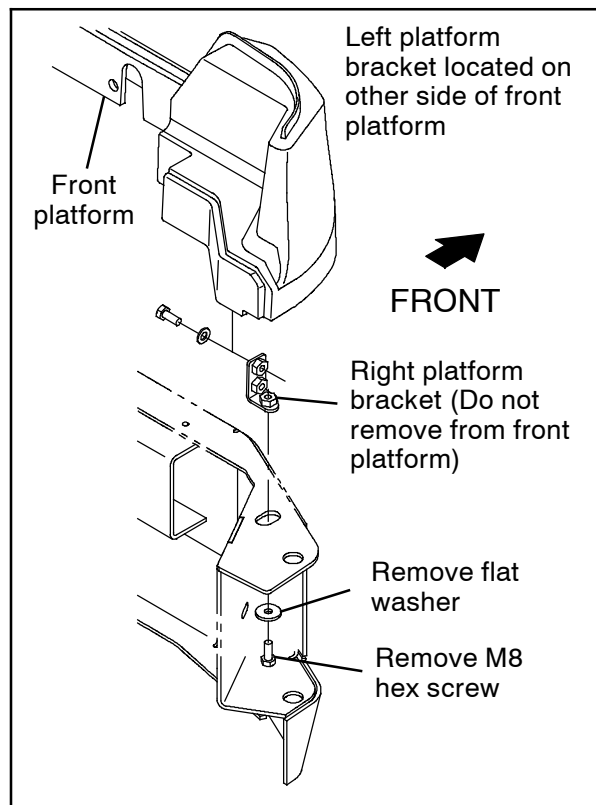

FIG. 1
2. Remove the M8 hex screws securing the right platform bracket and left platform bracket to the bumper. Set the M8 hex screws and flat washers aside. (Fig. 1)
7. Use the saved M8 hex screws / flat washers to secure the right platform bracket and left platform bracket to the bumper. (Fig. 1)